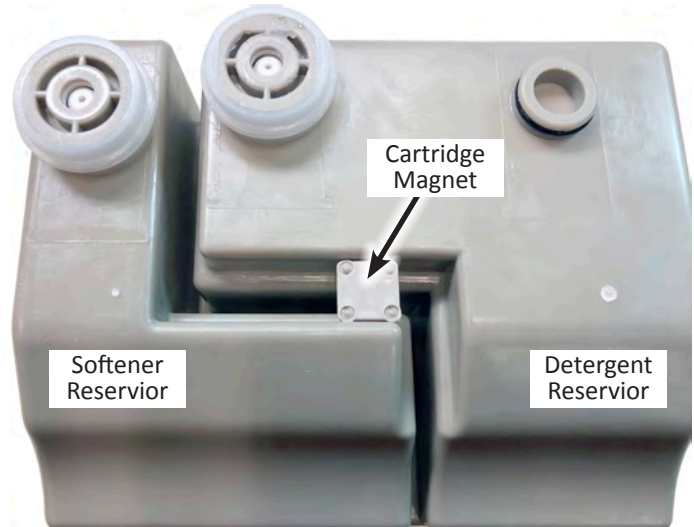

Figure 1 - Dispenser Container Bottom View
2. Open dispenser lid and remove bulk dispenser container. Verify that magnet is in place under the container (see Figure 1).